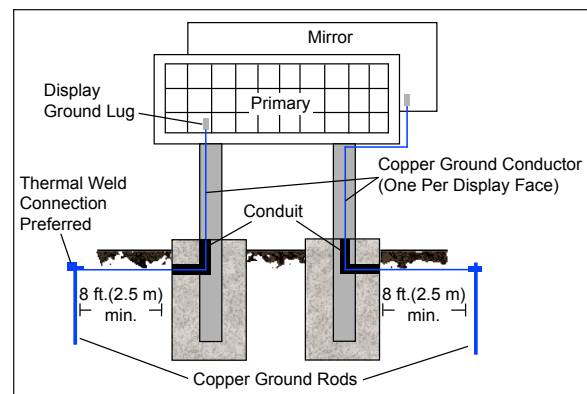

Figure 2: Proper Display Grounding
1. Install an earth-ground electrode (ground rod, ground plate, etc.) near the base of the display. Refer to **Figure 2** for guidelines.